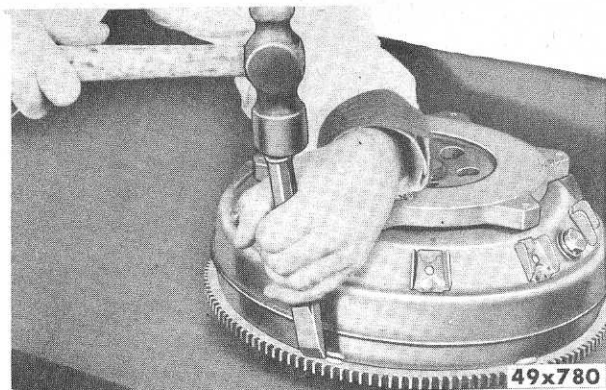

Fig. 23—Driving Off Ring Gear
- (4) With the front face down, use a heavy drift and hammer, and drive off the ring gear (Fig. 23).